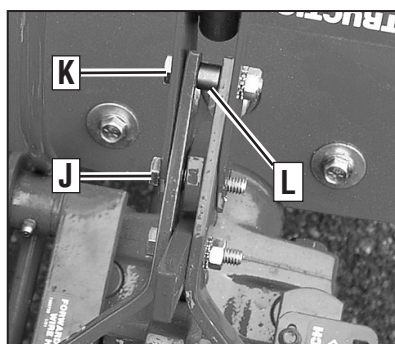
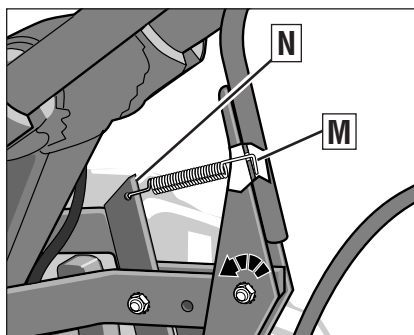
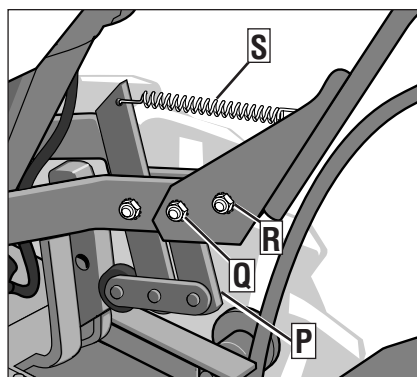

Figure 2-7: Drive Lever assembly.
Figure 2-8: Clutch pawl spring. Tilt Wheels/Tines/PTO Lever fully forward before installing spring.
Figure 2-9: Fully assembled Wheels/Tines/PTO Lever assembly.
3. Slide the plates at the end of the Wheels/Tines/PTO Lever over the yoke plates (Figure 2-9). To aid in the next step, insert a screw temporarily into the forward most holes (J, Figure 2-7) of the
5. Retrieve the clutch pawl spring (Figure 2-8) from hardware bag.
Remove the temporary screw (J, Figure 2-7) from the forward holes and move the Wheels/Tines/PTO Lever fully forward. Install the wider hook end of the clutch pawl spring (M, Figure 2-8) down into the small hole at the end of the handle. Use pliers to insert the other end into the hole in the long link bar (N).
6. Pull the Wheels/Tines/PTO Lever back to align the forward most holes (Q, Figure 2-9) in the yoke plate with the holes in the lever plates. Also align the bushing that is inside the short link bar (P). Install the screw, star washer, and nut, then tighten securely.
Securely tighten all other hardware (Q, R, Figure 2-9). Also ensure that the spring (S) is properly seated at both ends.
Completed assembly should appear as illustrated in Figure 2-9.